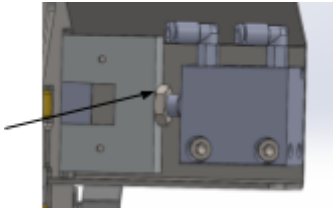

Figure 15
Step 1: The knife holder mounted on the cylinder is secured with a nut. This must be unscrewed (figure 15).